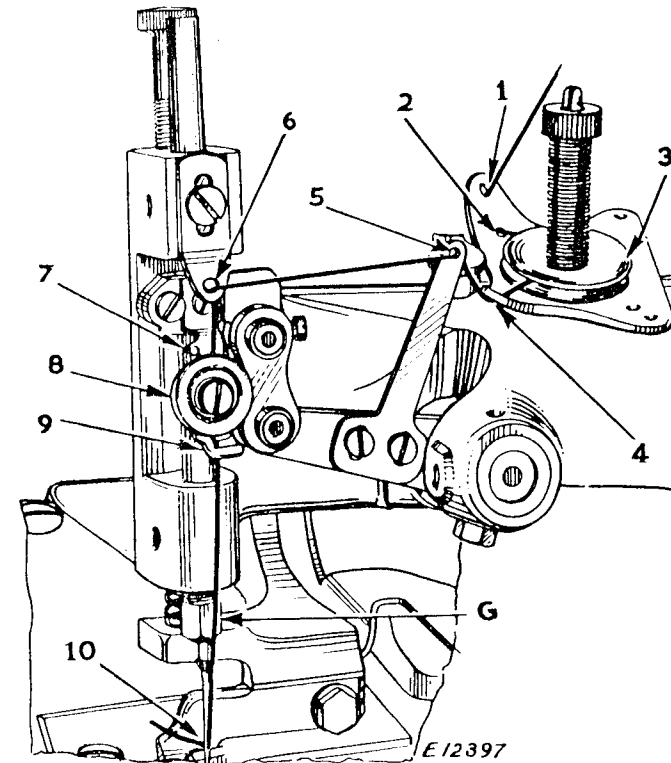

Fig. 6. Threading the Needle
Loosen the clamping nut (G, Fig.6) at the lower end of the needle bar and put the needle up into the bar as far as it will go, with the clearance above the eye at the back, or farthest from you. Then tighten the clamping nut (G).